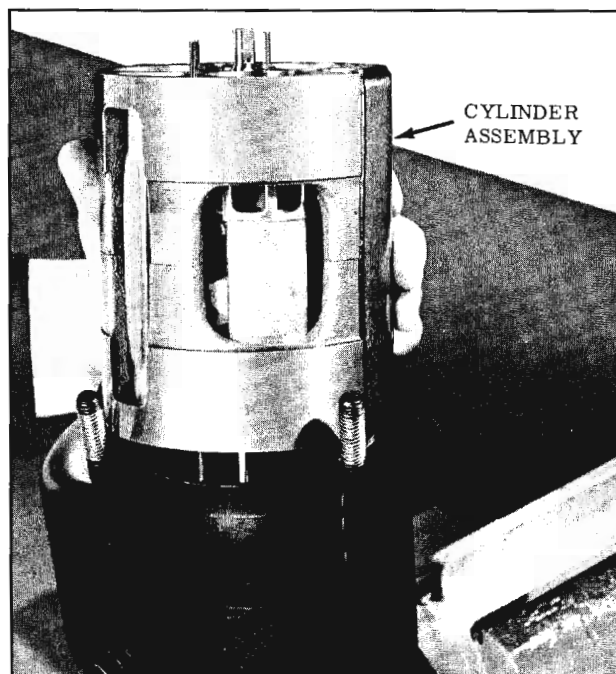

Fig. 15-67 Removing Cylinder from Housing
1. Remove the cylinder assembly from the rear of the compressor housing by pushing on the compressor shaft. (Fig. 15-67)